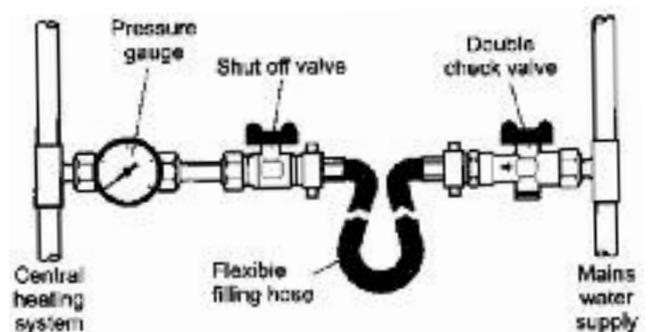

Fig. 15b
- The filling loop kit and pressure gauge supplied should be located in a convenient and easily accessible position inside the house, where the gauge is visible to the User, see (Fig. 15b).
- 10 The filling loop kit and pressure gauge supplied should be located in a convenient and easily accessible position inside the house, where the gauge is visible to the User, see Fig. 15b, as follows: